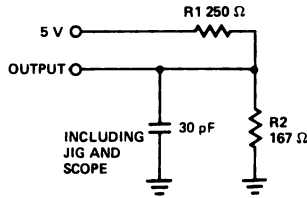

Figure 1a
6. Test conditions assume signal transition times of 5 ns or less, timing reference levels of 1.5V, output loading of the specified I_{OL}/I_{OH} and loads shown in Figures 1a, 1b.